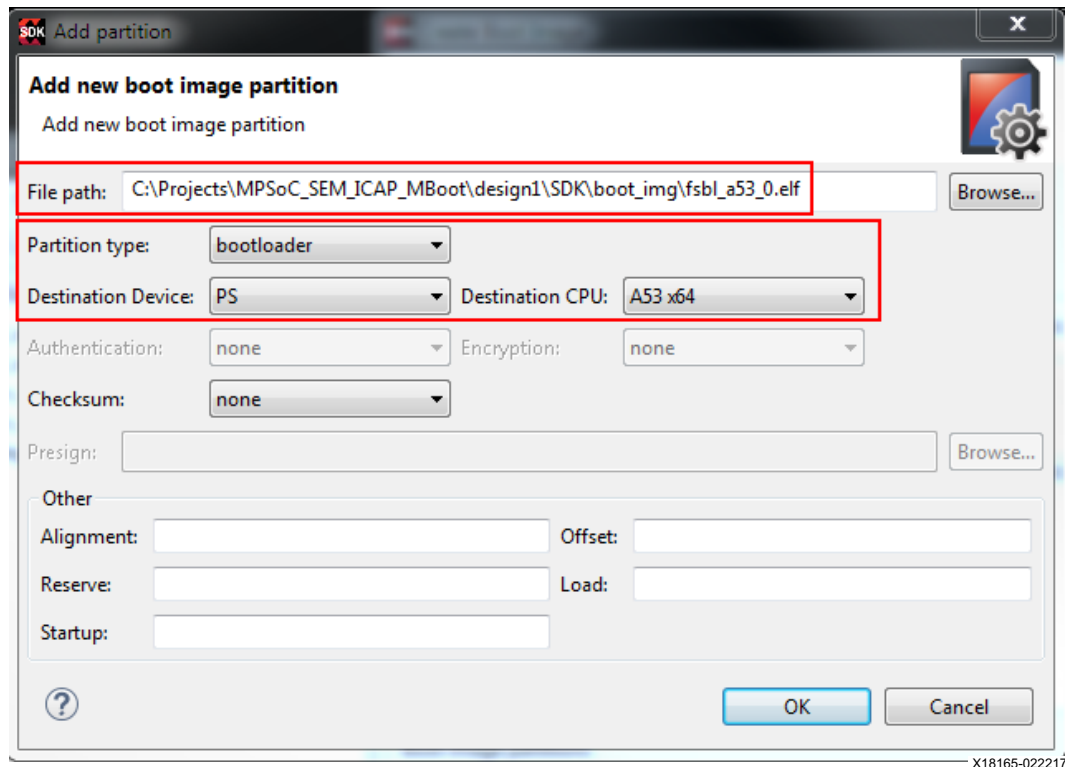

Figure 14: Design 1 - FSBL Boot Partition
- c. Verify the Partition Type is **bootloader**, the Destination Device is PS, and the Destination CPU is **A53 x64**. See Figure 14.